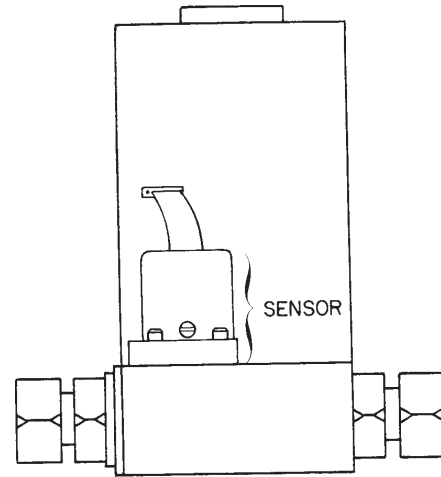
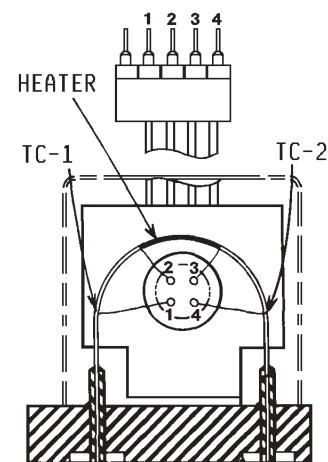

Fig. 4.3
Fig. 4.4
If the sensor fails or becomes plugged it can be removed. Remove the cover and the PC board per Section 4.6 above. Remove the three bolts holding the sensor to the instrument base. Remove the sensor from the base noting the two O-rings (Parker 2-005, V884-75) between the sensor and the base. See Figure 4.3. If the sensor is plugged it can be cleaned by running a fine wire (approximately 0.008" diameter) through the tube. If sensor needs replacement, obtain another from the factory and install it. Ensure that O-rings are clean and intact. Install O-rings on seating surface, then carefully place sensor over O-rings, and tighten down the three screws evenly. Replacement of sensor will require recalibration per Section 4.3.1.
**ACTION:** Unplug sensor from PC board (Fig. 4.3). Pins on sensor are numbered from left to right. Begin counting with second pin from left (see Fig. 4.4). Check the resistance between pins 2 & 3 of the sensor. This will read between 2450 & 2550. Check the resistance between pins 1 & 4 of the sensor. This should read approximately 2.3 ohms. If this reads open circuit, sensor was probably plugged into PC board improperly and one of the thermocouples has been destroyed. Replace sensor. Check the resistance between pin 2 and the base of the sensor. This should be an open circuit. Repeat for pin 3 and the base. If resistance readings are correct but sensor is not indicating flow, the sensor is probably plugged; clean or replace as applicable.